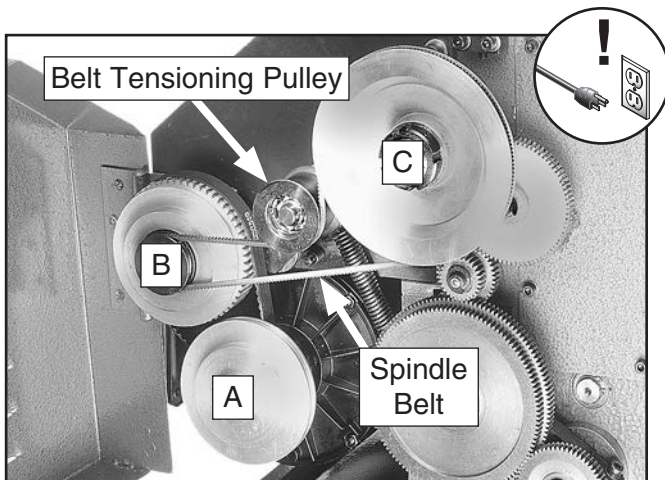

Figure 45. Spindle speed pulleys and spindle belt.
3. Open the change gear cover and use **Figure 45** to identify the motor (A), idler (B), and spindle (C) pulleys, the spindle belt, and the belt tensioning pulley.